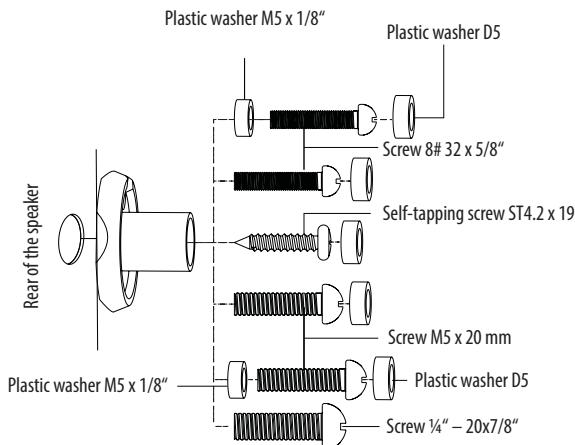

Figure 3
- Check the hole in the center of the mounting post and make sure that the 8 # - 32 5/8 "screw, the ST4.2 x 19 self-tapping screw, the 1/4" - 20 x 1/2 "screw, or the M5 x 20 mm screw fit in it (see Figure 3).